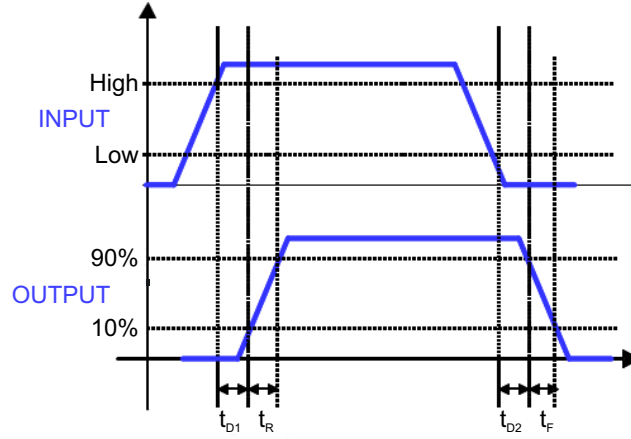

图 6-1. Timing Diagram: (OUTH Tied To OUTL) Input = IN, Output = OUT (EN = VDD) Or Input = EN, Output = OUT (IN = VDD)
(1) Ensured by design and tested during characterization. Not production tested.
(2) See 图 6-1.